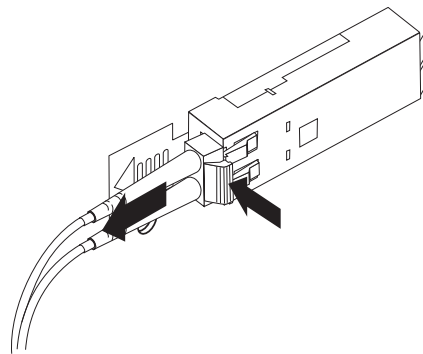

Figure 41. Removing the LC-LC fibre-channel cable
2. While pressing down the cable lever, carefully pull on the connector to remove the cable from the SFP module, as shown in Figure 41.